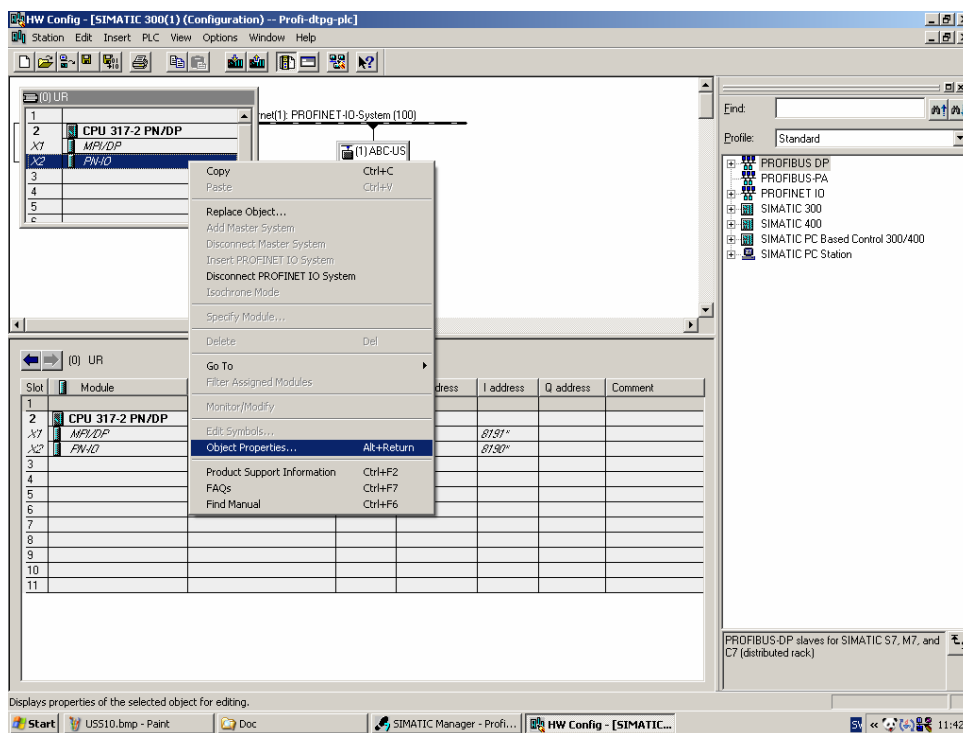

Figure 13
8. Enter an IP address for the PN-IO, as shown in figure 13 and 14